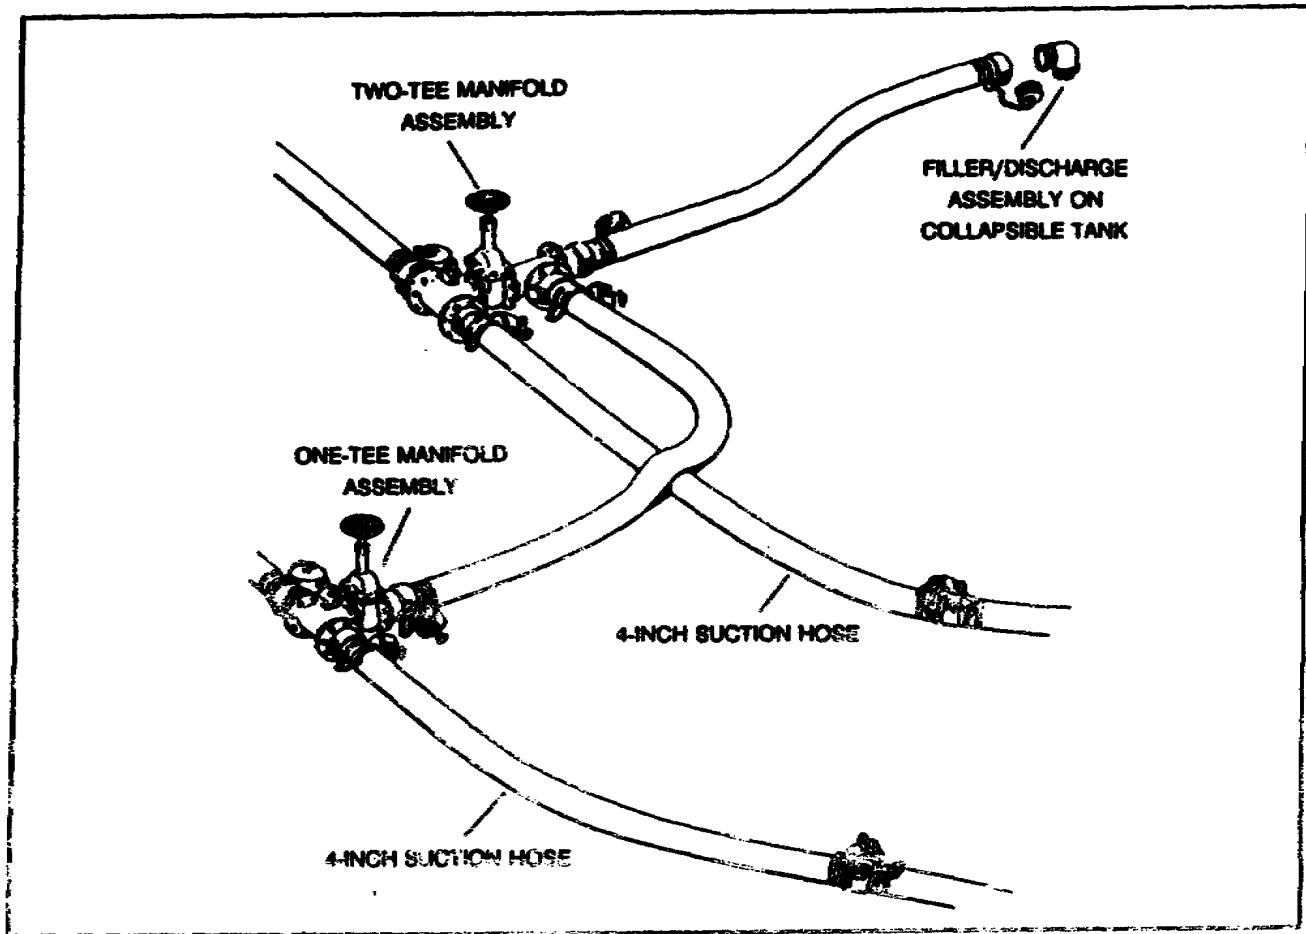

Figure 1-3. Hose line manifold assemblies
d. 10,000-Gallon Collapsible Tanks. The FSSP normally has six 10,000-gallon collapsible tanks to store fuel. Each tank uses one hose line manifold assembly with two-tee fittings and one hose line manifold assembly with one-tee fitting. The manifold, as shown in Figure 1-3, has two rising-stem, double-acting gate valves to control the flow of fuel into and out of the collapsible tank.
f. 500-Gallon Collapsible Drum Filling Points. There are two 500-gallon collapsible drum filling points in the FSSP. Each point consists of a tea assembly (reducing from 3 to 1 1/2 inches) coupled to a 1 1/2-inch, cam-locking coupling valve. Following this is 25 feet of 1 1/2 -inch discharge hose coupled to a 1 1/2-inch, cam-locking coupling valve as shown in Figure 1-3. You can also use the pressure control (which is not a component of the FSSP) for the filling operation. The inlet of the pressure control attaches to the downstream end of the 1 1/2-inch discharge hose. The 5-foot length of pressure control discharge hose connects from the control outlet to the drum elbow coupler valve as shown in Figure 1-1.